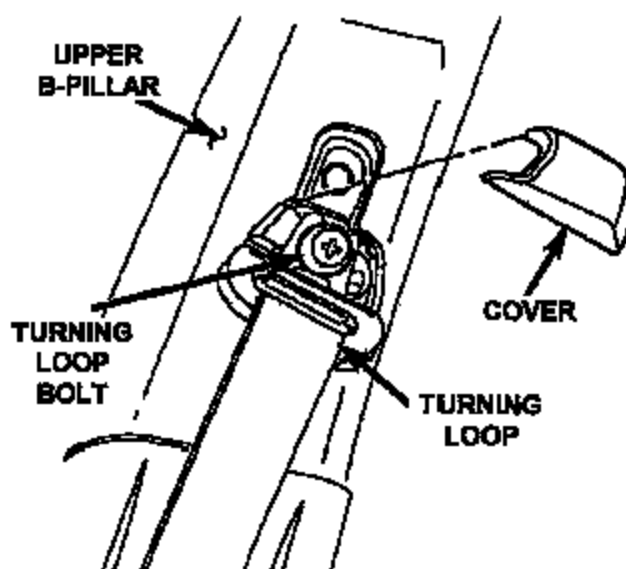

Figure 1 – Passenger Side Shown
1. Using a trim stick placed between the turning loop cover and the release button, pry the top of the driver's side turning loop bolt cover open and then remove the cover (Figure 1).